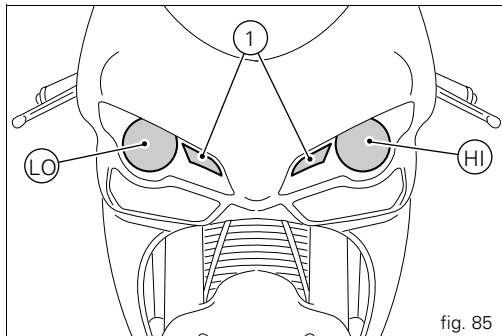

fig. 85
Before replacing a burnt-out bulb, check that the new one complies with voltage and wattage specified in the "Electrical System" paragraph on page 116. Always check that the new bulb works before refitting removed parts. Figure 85 shows the position of the low beam (LO), high beam (HI) and sidelight (1) bulbs.